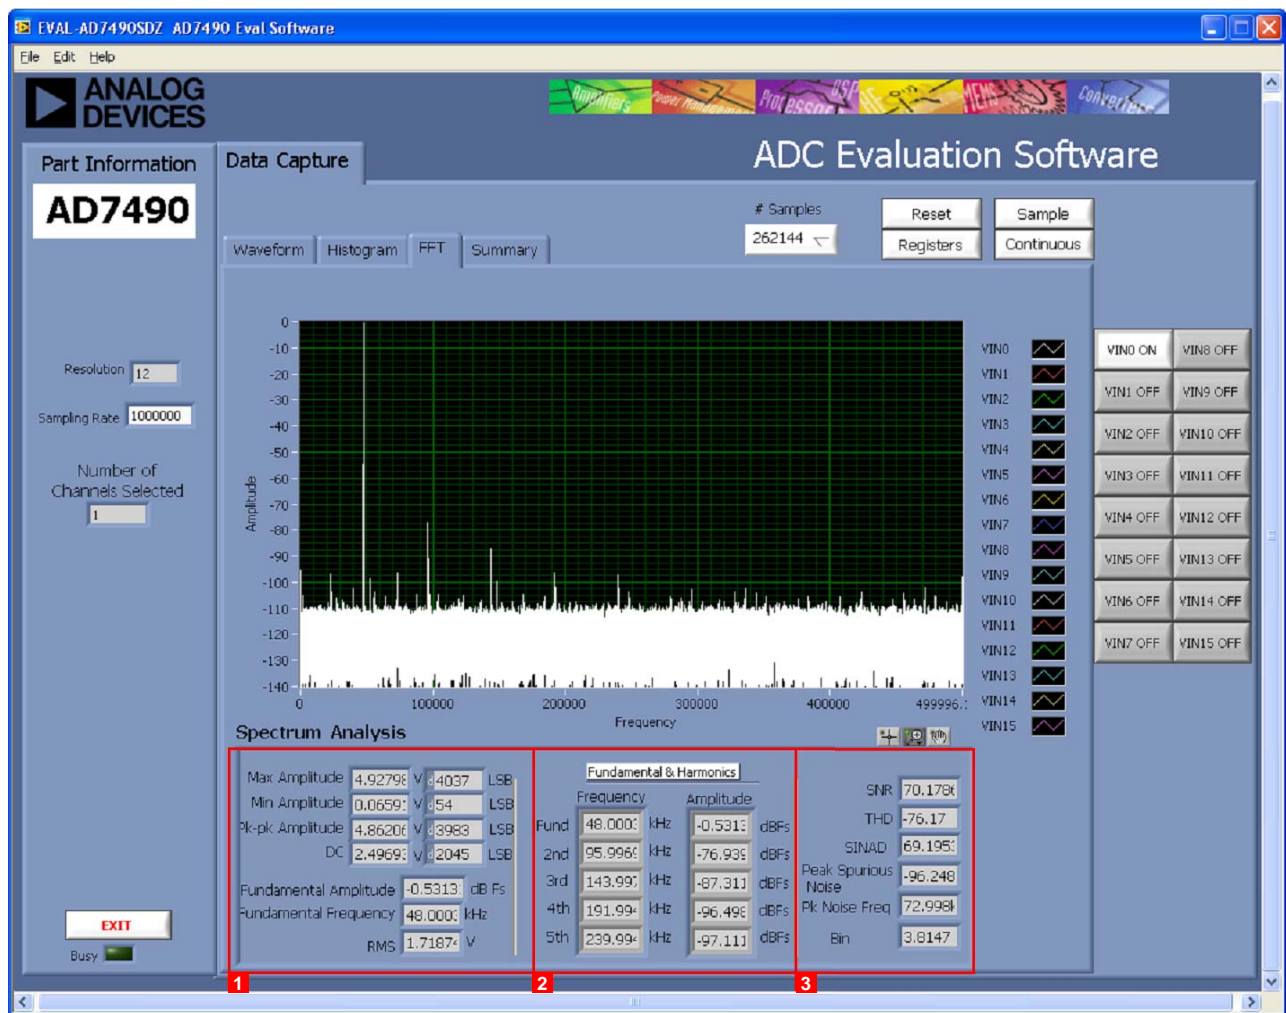

Figure 22. FFT Tab
Figure 22 shows the FFT tab. This feature tests the traditional ac characteristics of the converter and displays a fast Fourier transform (FFT) of the results.
- The area labeled 1 in Figure 22 shows the input signal information.
- The area labeled 2 in Figure 22 displays the fundamental frequency and amplitude in addition to the second to fifth harmonics.
- The area labeled 3 in Figure 22 displays the performance data, including the SNR, THD, and SINAD.